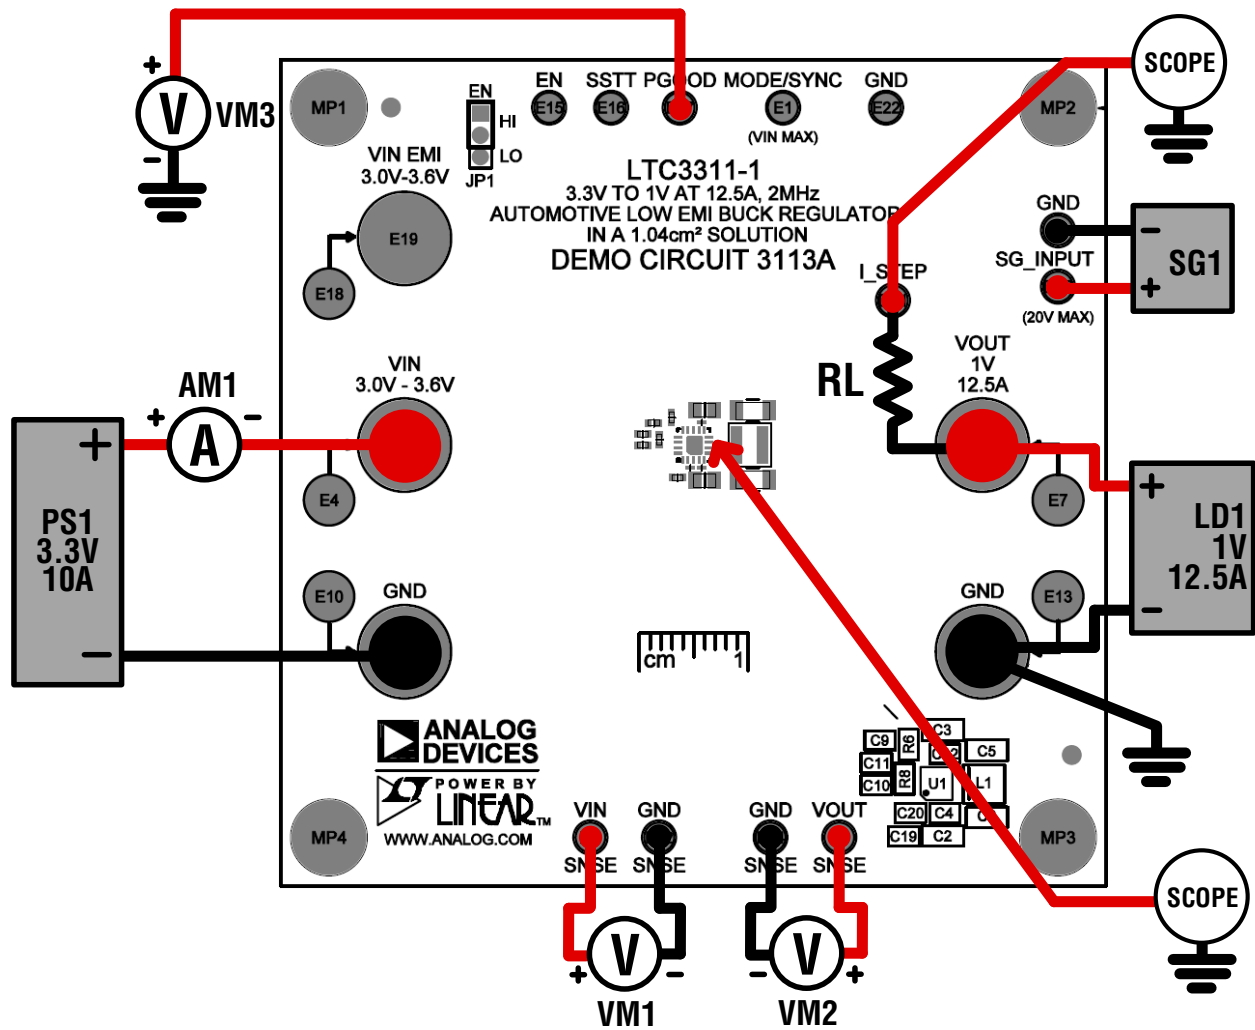

Figure 2. Test Setup for DC3113A Demo Board
Refer to Figure 2 for the proper measurement equipment setup and follow the procedure below:
NOTE: For accurate  $V_{IN}$ ,  $V_{OUT}$  and efficiency measurements, measure  $V_{IN}$  at the VIN SNSE and GND SNSN turrets, and measure  $V_{OUT}$  at the VOUT SNSE and GND SNSE turrets as illustrated as VM1 and VM2 in Figure 2. When measuring the input or output ripple, care must be taken to avoid a long ground lead on the oscilloscope probe.
7. To test the transient response with a base load, add the desired resistor to produce a minimum load between VOUT and I\_STEP turrets (RL shown on Figure 2). Note that the total load resistance will be RL plus R10 (10mΩ). Adjust a signal generator with a 10ms period, 10% duty cycle and an amplitude from 1V to 2V to start.